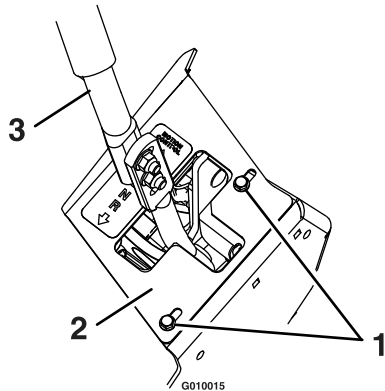

Figure 39
1. Loosen the screws on a cover plate (see Figure 39).